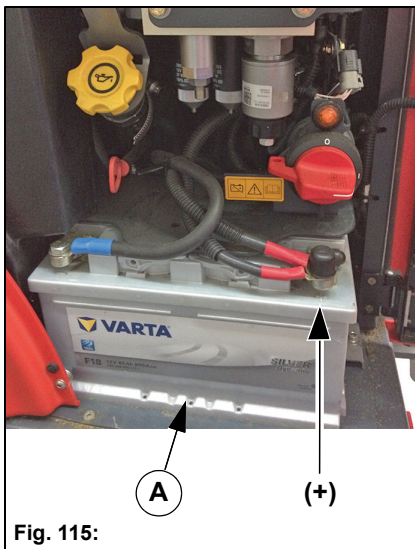

Fig. 115:
3. Open the left side door and loosen the battery holder of the battery **Fig. 115-A**.